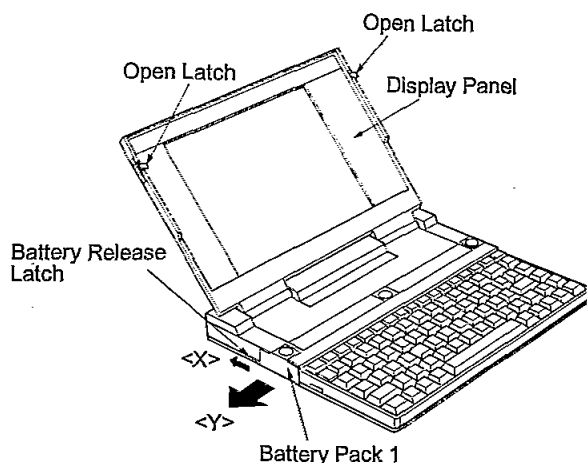

Figure 1
2. While sliding the Battery Release Latch in the direction of the arrow <X>, pull out battery pack 1 in the direction of the arrow <Y> as shown in Figure 1.